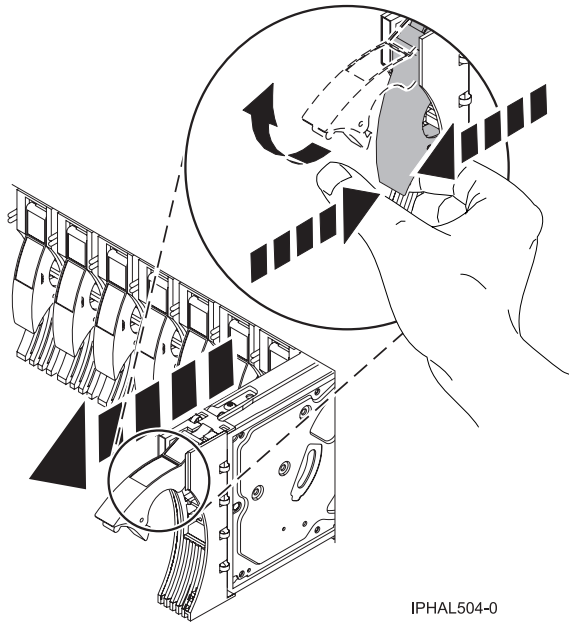

Figure 35. Removing a disk drive from a system
12. Unlock the disk drive handle by squeezing it and pulling it out toward you as shown in Figure 35 on page 39.